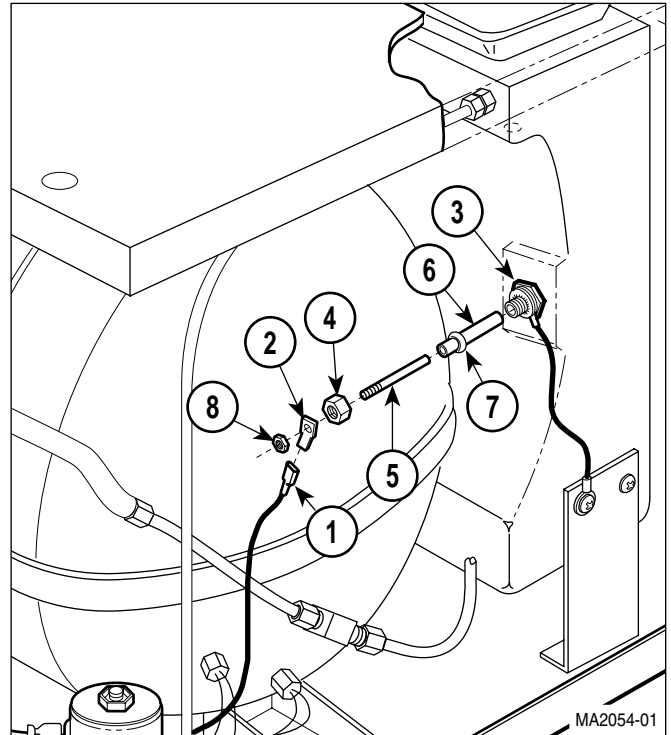

Figure 4-7. Condensing Tank Water Level Sensor Removal / Installation
- (1) Drain water from condensing tank.
- (2) Remove back panel (Refer to para 4.5).
- (3) Remove bellows assembly (Refer to para 4.7).
- (4) Disconnect wire (1, Figure 4-7) from terminal (2).
- (5) Using Water Level Sensor Wrench to hold fitting (3), loosen nut (4) (Refer to Table 1-2 for special tool).
- (6) Pull assembled level sensor rod (5) from fitting (3).
- (7) Remove nut (4), silicone tube (6), and crimp (7) from level sensor rod (5). Discard silicone tube and crimp.
- (8) Using vise grips to hold level sensor rod (5), remove nut (8) and terminal (2) from level sensor rod.